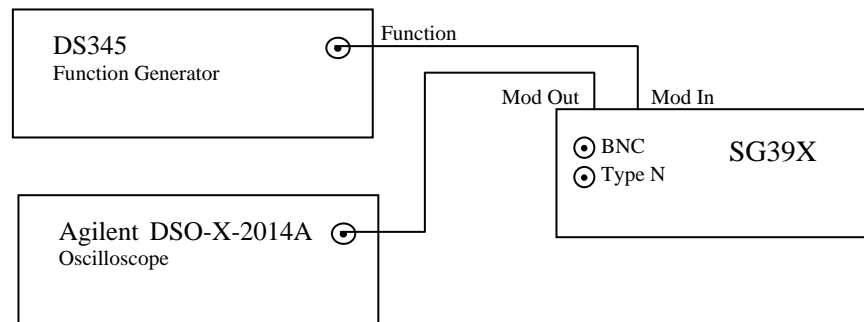

Figure 74: Setup for modulation input test.
This test verifies the operation of the modulation engine and modulation input. It does not test to any specifications. This test requires the setup shown in Figure 74
1. Connect the equipment as shown in Figure 74.